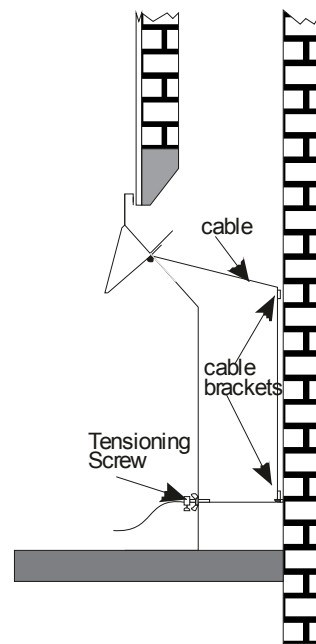

Figure 56
1. With the firebox placed close to the fireplace opening feed the two cables through the matching cable brackets (left cable through left hand set of brackets and the same for right hand cable) and then back into the holes at the bottom rear of the firebox (see **Figure 56**).